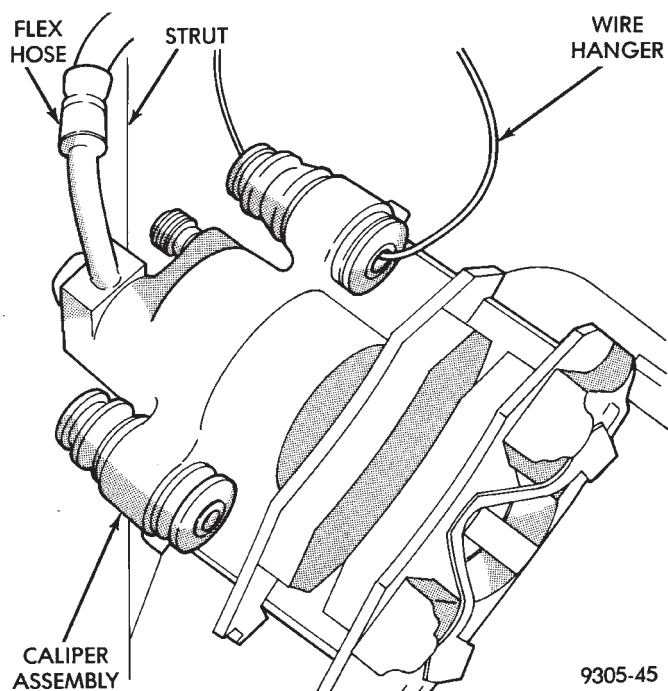

Fig. 3 Storing Caliper
(5) Support caliper assembly firmly from rear strut to prevent weight of caliper from damaging the flexible brake hose (Fig. 3).